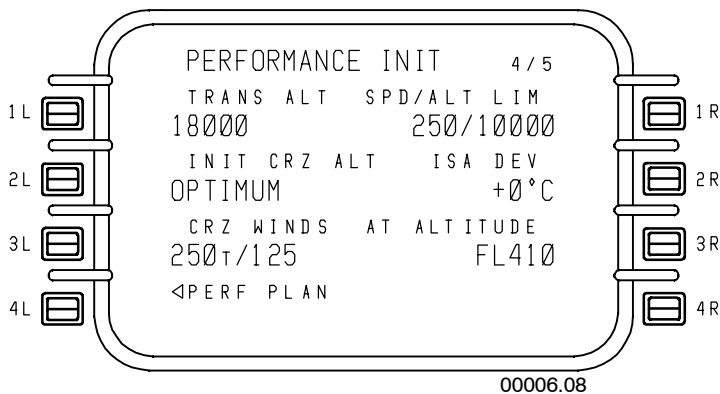

Figure 5-19
- **PERFORMANCE INIT 4/5** – Figure 5-19 does not require that an entry be made. However, a flight-specific item such as the cruise wind is a recommended entry. In addition, initial cruise altitude is usually entered.